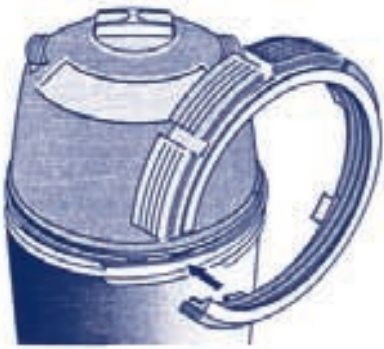

Figure 5
6. Separate upper and lower tank shell halves using tabs on bottom of PosiLok® ring. Insert tab into slot located at tank joint and twist ring to pry shell halves apart. See Figures 5 and 6.